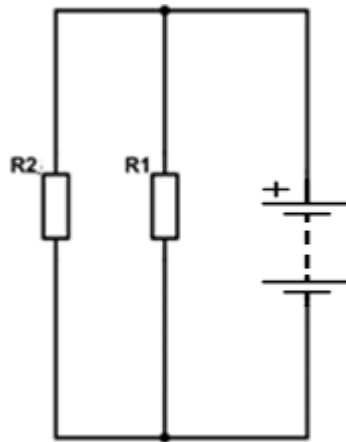

Figure 2 – Circuit 2
- b. Calculate the current across resistor R1, for the circuit shown in Figure 2 if the battery voltage is 10V, R1 is 10Ω and R2 is 20Ω. Show all workings.